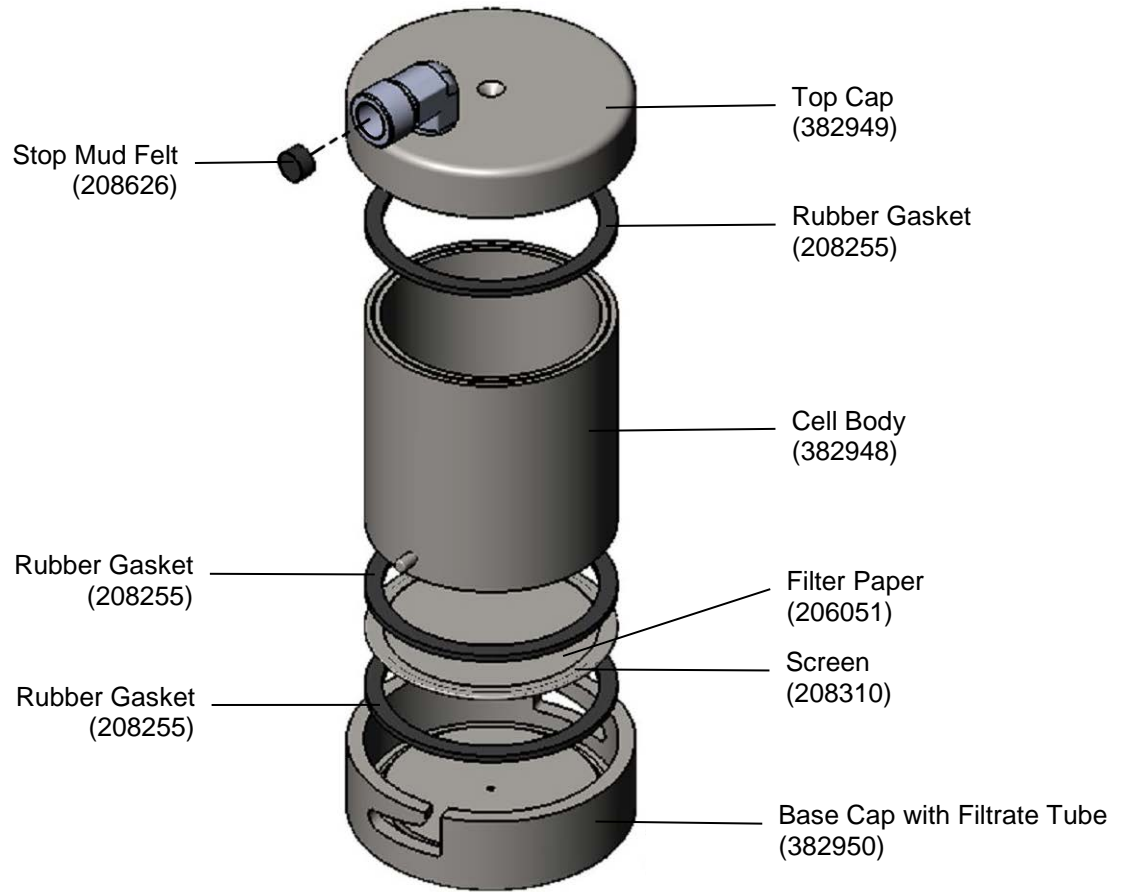

Figure 6-1 Cell Assembly
1. Assemble the clean, dry parts of the filter cell (Figure 6-1) in the following order: